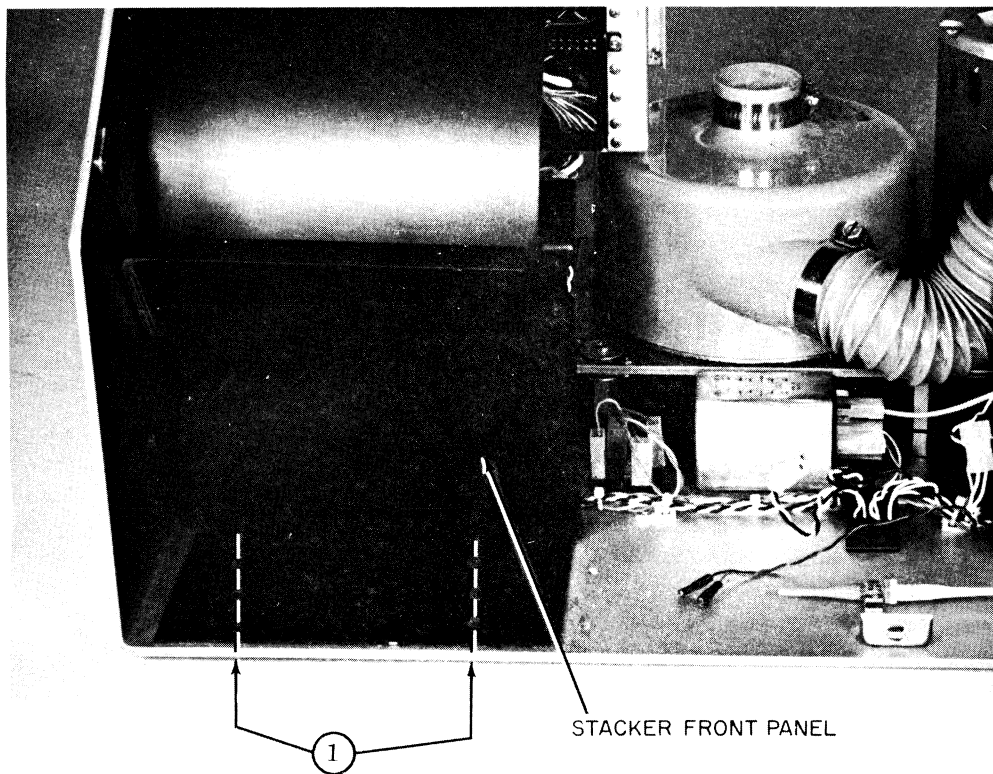

Figure 6-8. Stacker Panel Removal
- a. Remove two screws from bottom of mainframe holding stacker front panel ①, figure 6-8.